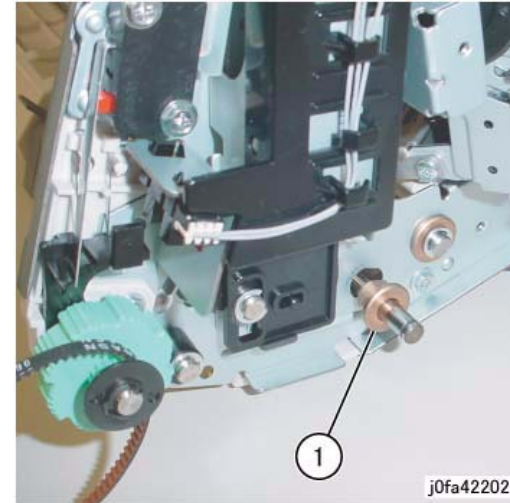

Figure 2 Removing the Front Bearing
6. Remove the Front Bearing (Figure 2):